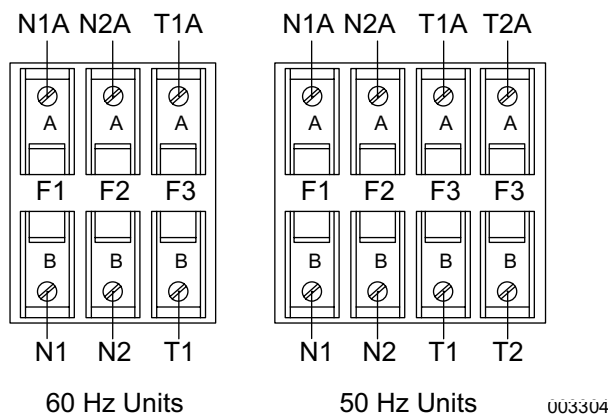

Figure 4-83. Transfer Switch Fuse Block
5. See Figure 4-83. Remove fuse F3 (T1) from the fuse holder.